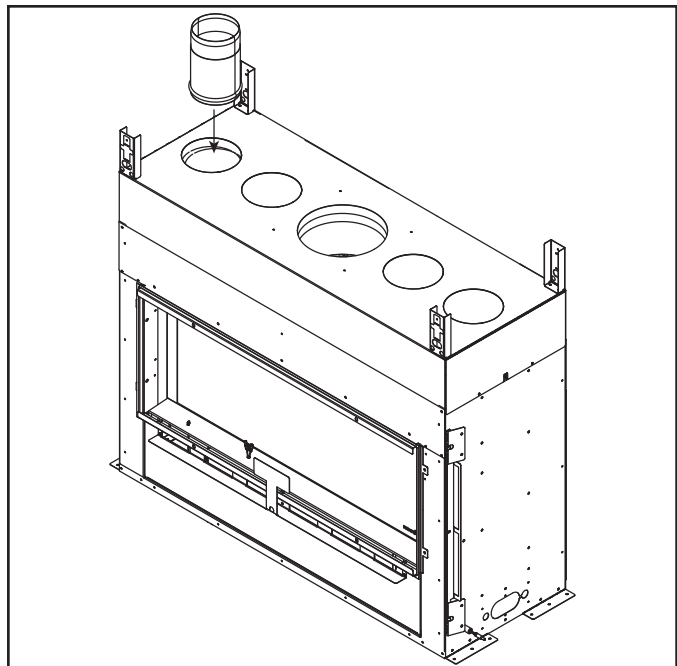

Figure 6.5 Heat-Zone-Gas Linear Adapter Collar
- Center the duct collar around the exposed hole and attach it to the appliance. See Figure 6.5.
The HZLIN-ADP adapter kit is required for use with the Heat-Zone-Gas Kit and is necessary when the optional Heat-Zone-Gas Kit is installed on the MEZZO-C models. See Figure 6.5.